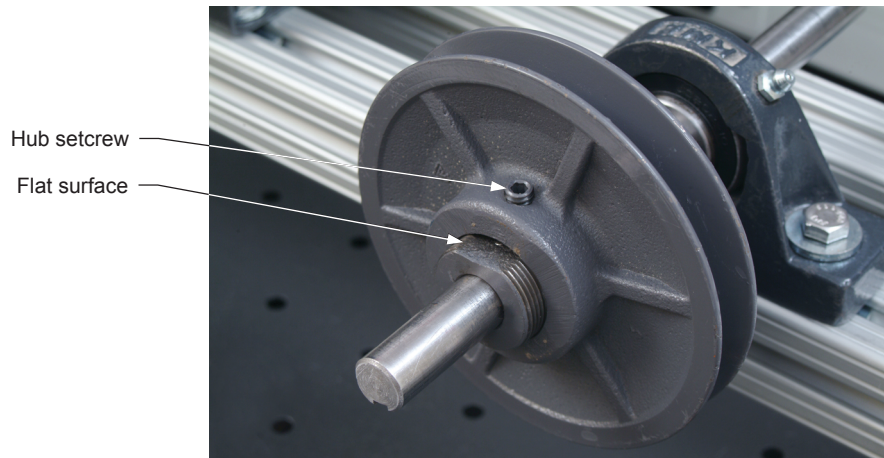

Figure 14. Adjustment of the pitch diameter.
- Turn the mobile half counterclockwise until the setscrew is aligned with the first flat surface on the pulley hub as shown in Figure 14.